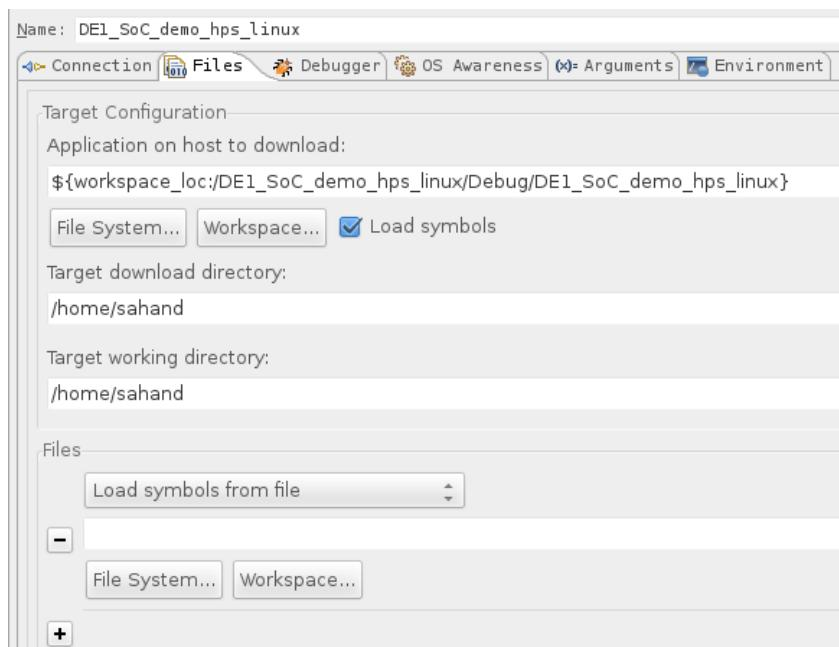

Figure 13-20. Debug Configuration "Files" Tab
- Set the "Target working directory" to your user directory. In my case it is "/home/sahand". You should have something similar to Figure 13-20.